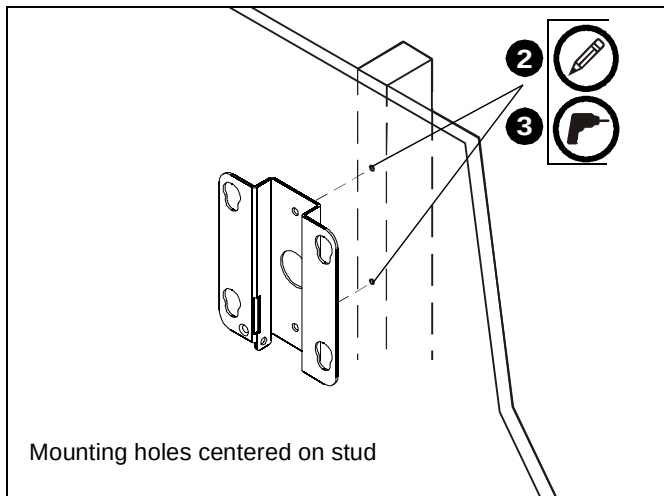

Figure 9
2. Use the removed mounting bracket as a template and mark through top and bottom holes of wall bracket making sure mounting holes are centered on stud. (See Figure 9)
3. Drill two 1/2" diameter pilot holes at marked spots into wood stud. (See Figure 9)